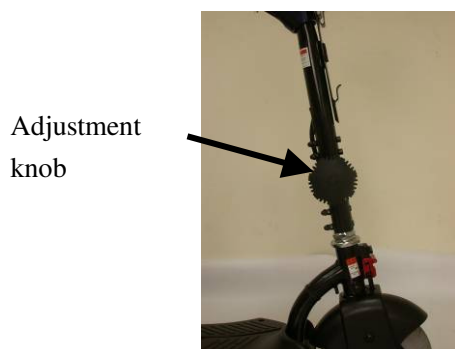

Fig. 4.3
1. Loosen the knob to adjust the tiller to positions you want. (Fig. 4.3)